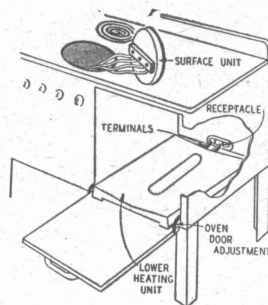

Fig. 51
**Remedy:** Same as for surface units. Push heating units firmly into receptacle. Fig. 51.
**Remedy:** Check fit with a piece of paper. The door should fit tightly at the top but have  $\frac{1}{8}$ -inch space at the bottom edge. The adjustment, Fig. 51, may require a serviceman.
5. Keep the drip pans beneath the surface units clean to prevent burning of wires leading to surface units. In order to clean, it may be necessary to lift up the surface unit, Fig. 51.